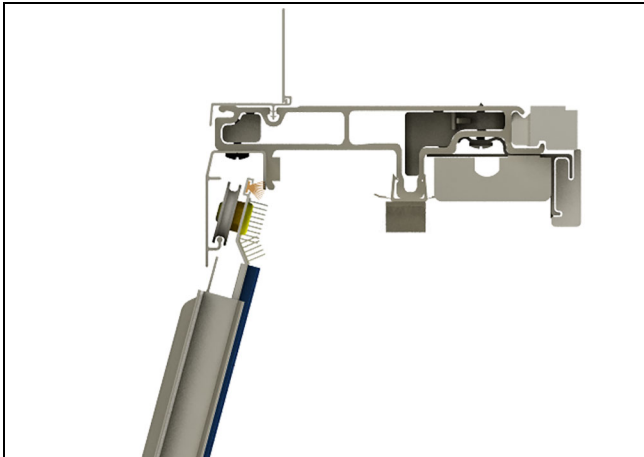

Figure 7
1. From the exterior, hold the screen with the rollers facing you while tilting the bottom of the screen panel away from the door. Lift the rollers into the screen track and pull the panel toward your body to engage the rollers in the track. See Figure 7. Make sure the rollers are seated in the screen track by moving the panel back and forth.